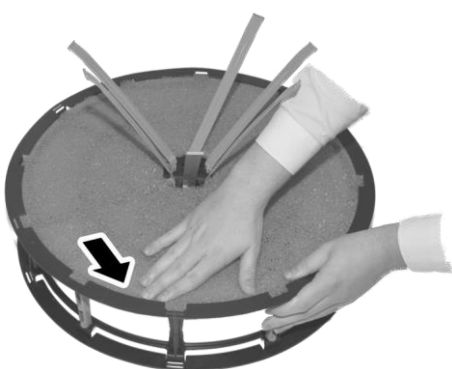

Fig. 25: Laying down the evaporator filter and fixing it in place
7. ➤ Pull the new inner evaporator filter with the filter brackets (Fig. 25).